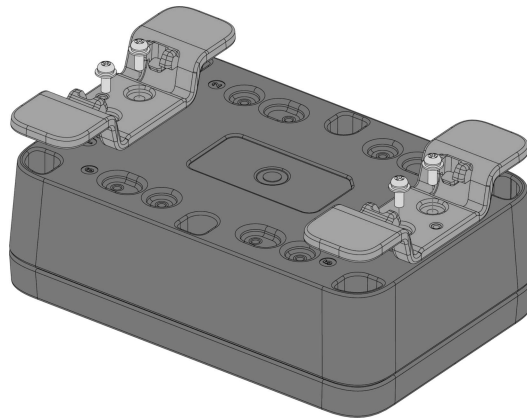
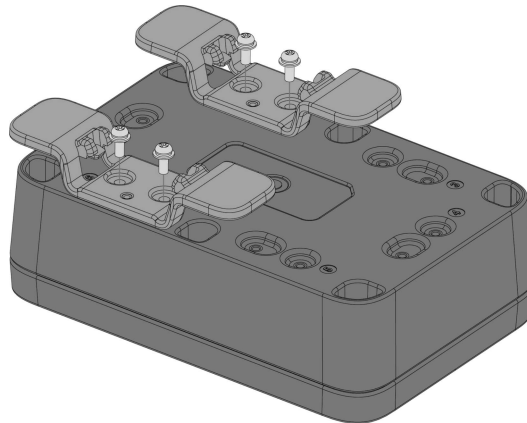

Figure 27: Fixing the DIN mount on the enclosure's position number 1 & 4
Figure 28: Fixing the DIN mount on the enclosure's position number 2 & 6
2. Fix the DIN mount marked with the letter **F** on the WisBlock Unify Enclosure using four (4) pieces of M3*8 mm Head screw with the washer. Place it on fixed positions number **1 & 4** or **2 & 6** of the enclosure, as shown in **Figure 27** and **Figure 28**.